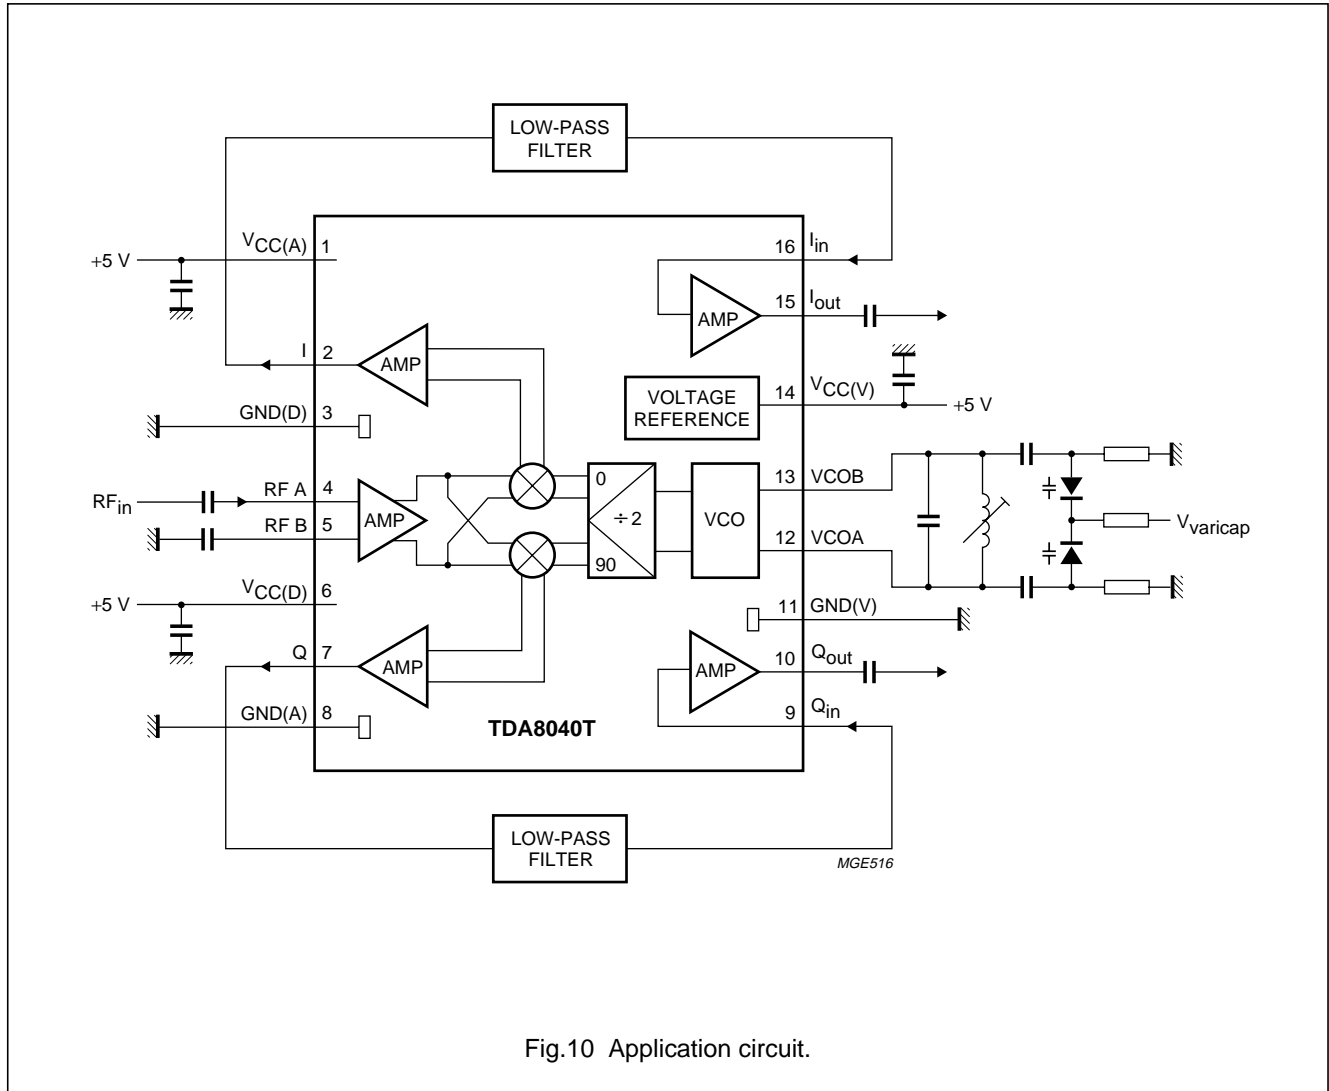

Fig.10 Application circuit.
measured in application circuit of Fig.10; unless otherwise specified.
8. The temperature for the VCO frequency drift is defined for  $\Delta T_{\text{amb}} = 25 \text{ }^\circ\text{C}$ . It is measured in the application circuit of Fig.10 with the following component values for the tank circuit: